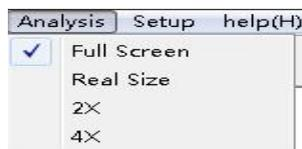

Figure 5-14
- Set up the view size: Full screen, Real size, 2X and 4X. As shown in the figure 5-14.